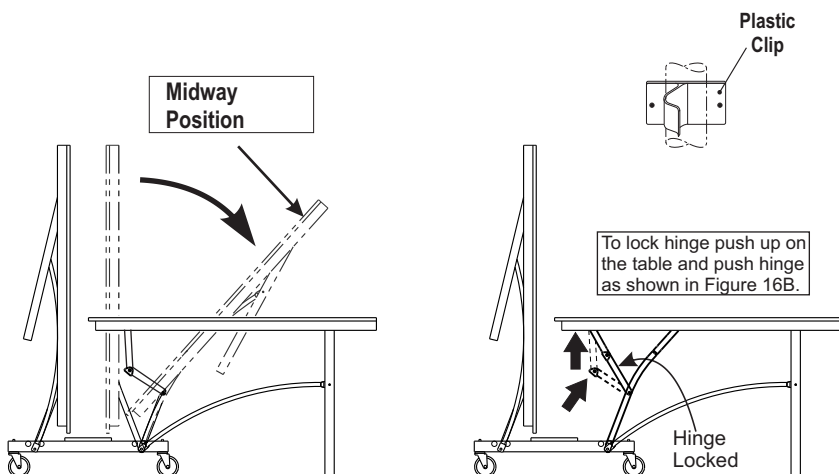

Figure 16A
1. Hold center of top edge. Gently pull outward to midway position. Continue to pull until disengaged from plastic clips and legs rest on the floor as shown in Figure 16A and 16B. Do not leave table partially opened at midway position.